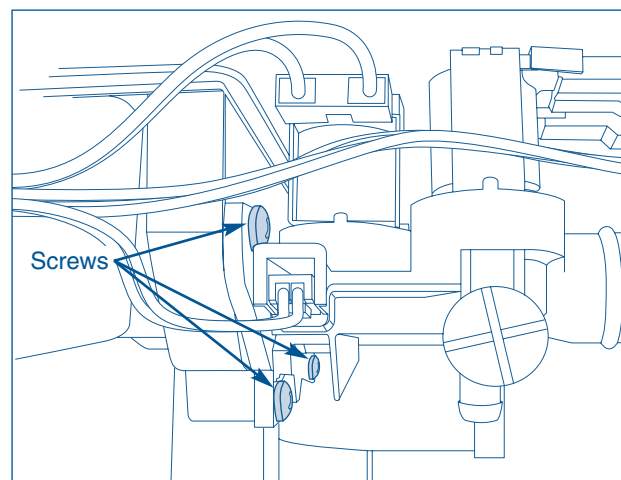

Figure 4-33.
4. Using a #2 square bit screwdriver, extract the three screws, one on each side and one underneath the water inlet valve assembly, securing the water inlet valve assembly to the detergent dispenser housing. (See Figure 4-33)